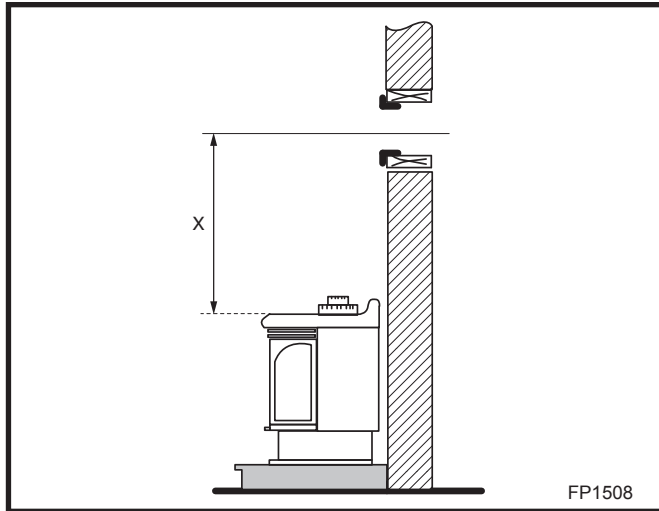

Fig. 15 Height to center of wall opening.
Place fireplace into position. (Fig. 15) Measure the vertical height (X) required from the base of the flue collars to the center of the wall opening.